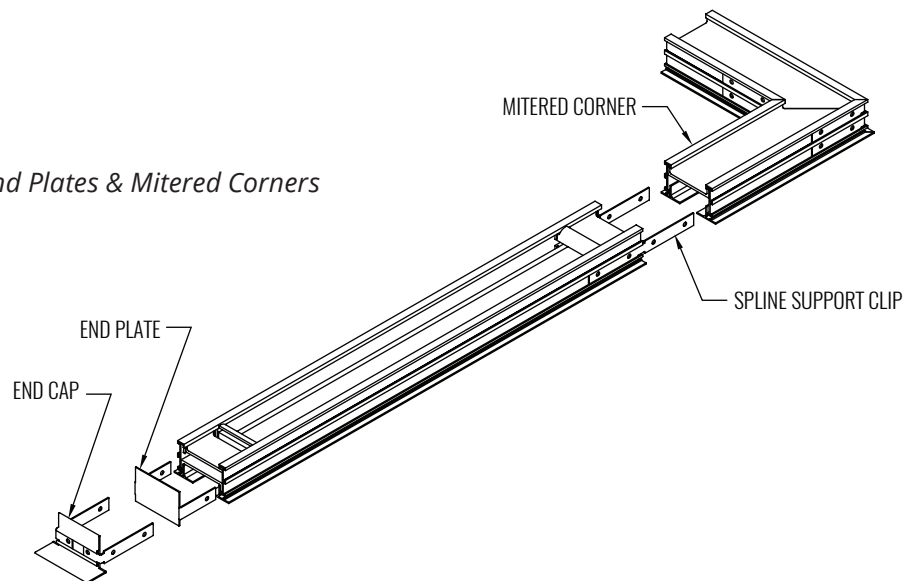

Figure 4. Installation of End Caps, End Plates & Mitered Corners
- Install and secure end caps and mitered corners to the straight sections of linear prior to lifting the DFL diffuser into the framed opening as shown in Figure 4.